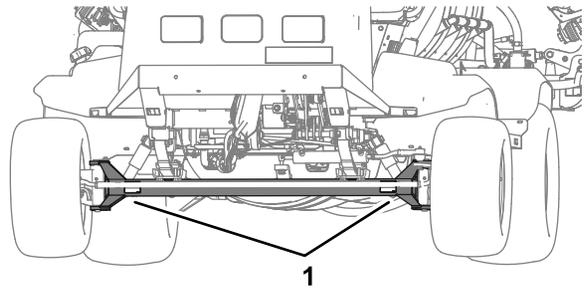
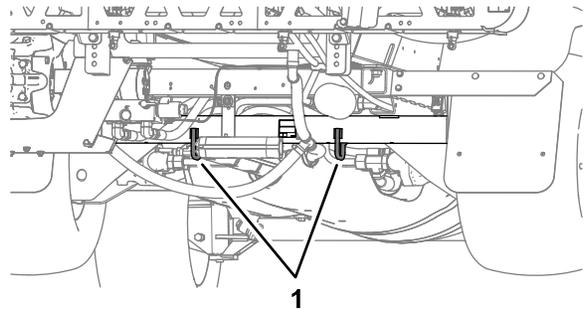

Figure 55
Figure 56
- Bind the machine securely to the transport vehicle; Figure 55 and Figure 56 illustrate the tie-down points of the machine.